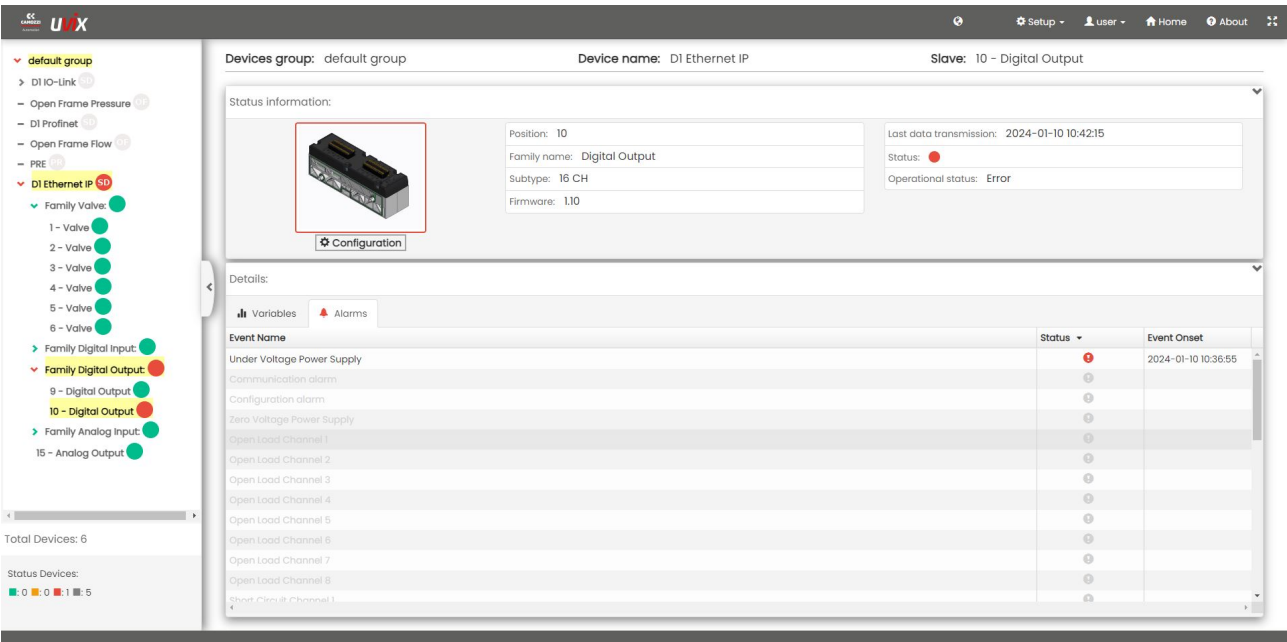

Figure 6.37: Alarms window
- Alarms: Displays active errors and alarms (Figure 6.37).